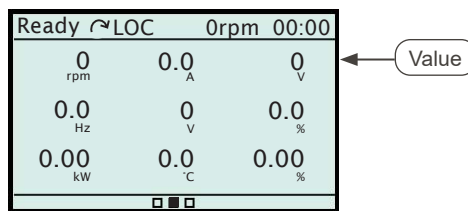

Figure 4.13: View in Slot
- **Slot:** the HMI screen is divided into nine parts called Slots and allows viewing reading variables in the format **value**. Figure 4.13 on page 77 shows a view example.